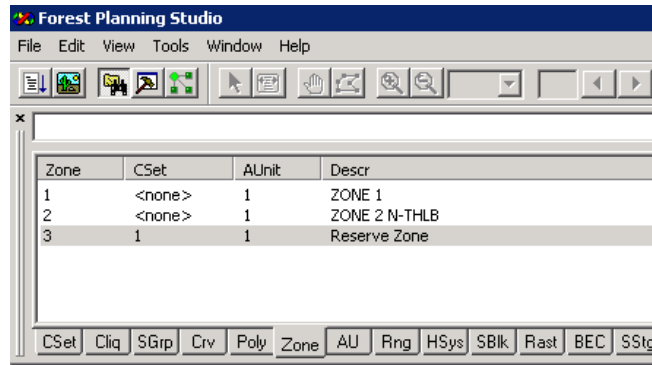

Figure 29: Confirming that the constraints are applied to the correct zone.
3.3.10 Select the *Zone* tab in the *Browser* window. The *Reserve Zone* should be visible and should have *Cset 1 (No Harvest)* applied (figure 29).